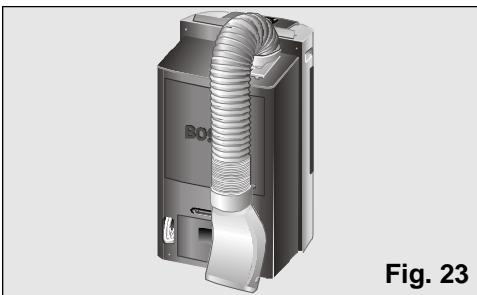

Fig. 23
- ❑ To do this, bend the tube towards the back of the appliance and secure it with the diffusion hook, Figs. 23 and 24.